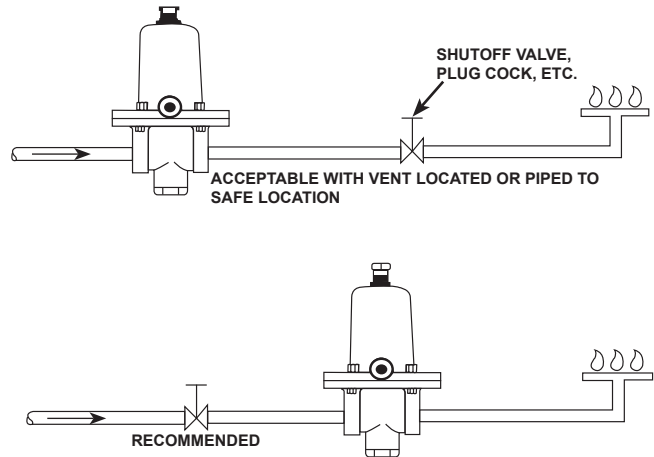

Figure 2. Type 64SR on Liquid Service Requires Care with Downstream Restrictions
- On liquid service, it is recommended that shutoff valves be installed on the inlet side of the regulators. Figure 2 shows a typical installation using the Type 64SR. If other regulator models are used, an external relief valve is required downstream of the regulator and before any shutoff valve. Installations with shutoffs downstream of the regulator can trap liquid between the regulator and the shutoff. The trapped liquid can vaporize, opening the internal or external relief valve. On installations where it is impossible to install the regulator without using shutoffs between the regulator and the burner, either install the regulator in a safe location or run a vent line from the Type 64SR vent or the discharge point of the relief valve to a safe location so that any discharge through the relief valve will not create a hazard.